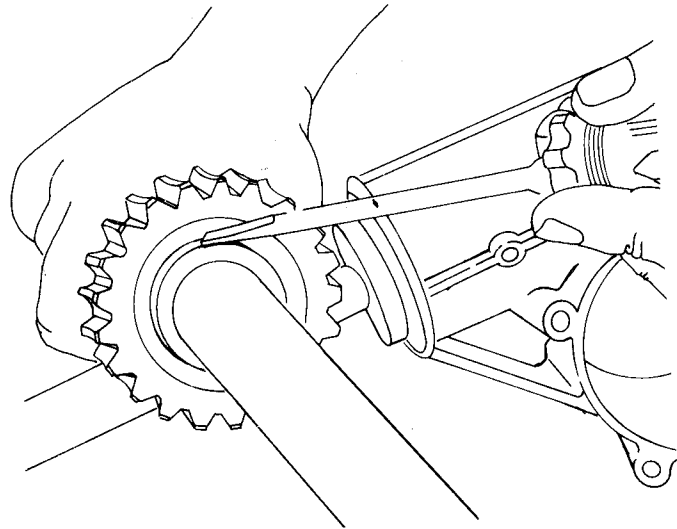

FIGURE 3.21 — GROOVED SIDE OF GEAR
STEP 6. When re-assembling the gear box make sure the grooved side (pointed out in Figure 3.21) of the auger shaft worm gear is installed toward the inside of the case housing.